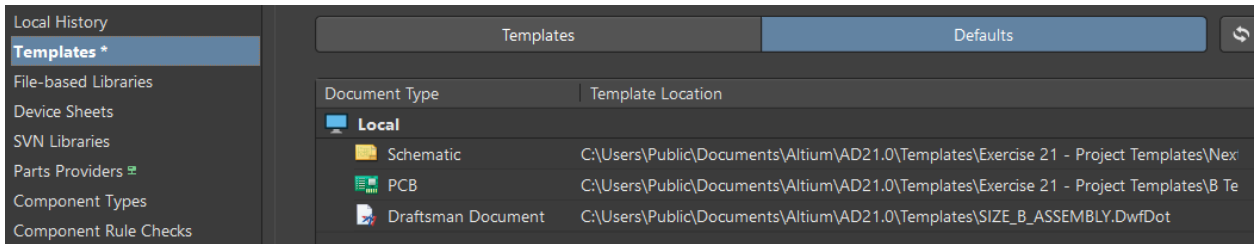

Figure 26: New Document Defaults targeting the newly created templates
- d) Add templates for the various file types, Schematic, PCB, etc. as shown in the Figure 26 below.